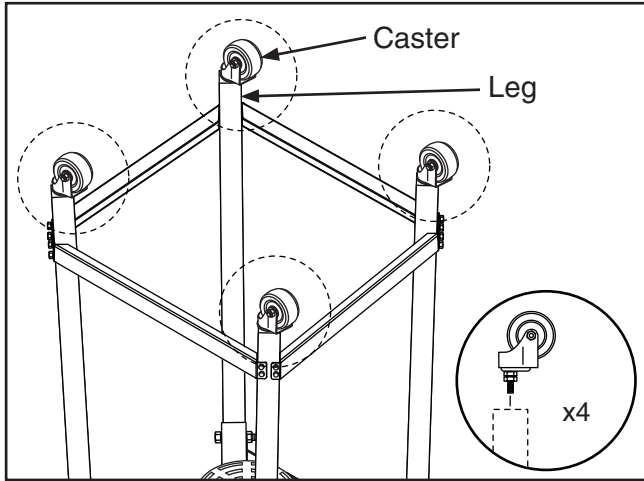

Figure 15. Attaching casters.
- Attach the four casters to the legs by threading them into the bottom of the legs, as shown in **Figure 15**.